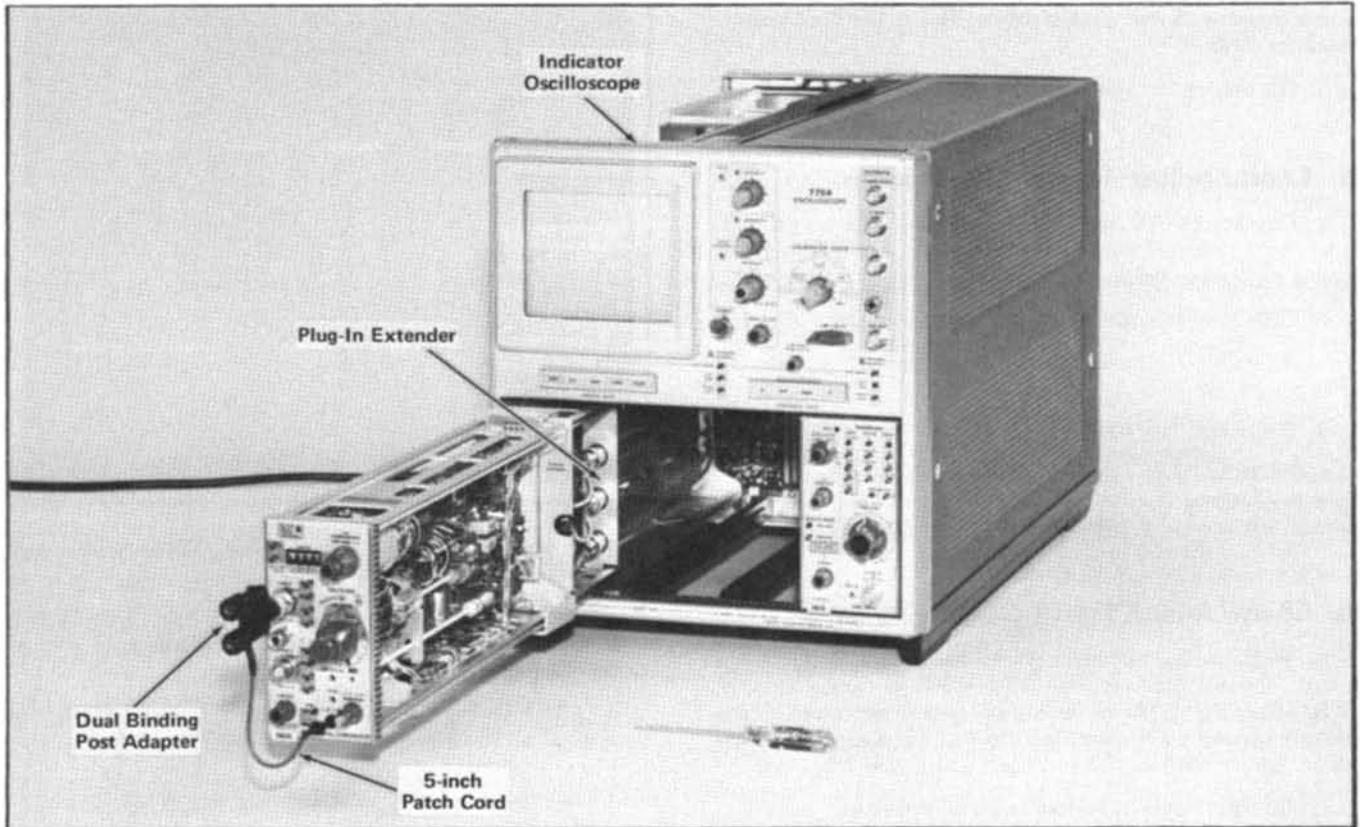

Fig. 5-5. Initial setup showing equipment required for performing steps 10 and 11. For a performance check the Plug-in Extender is not needed.
- Test equipment setup, with connections made at completion of step 10c, is shown in Fig. 5-5.